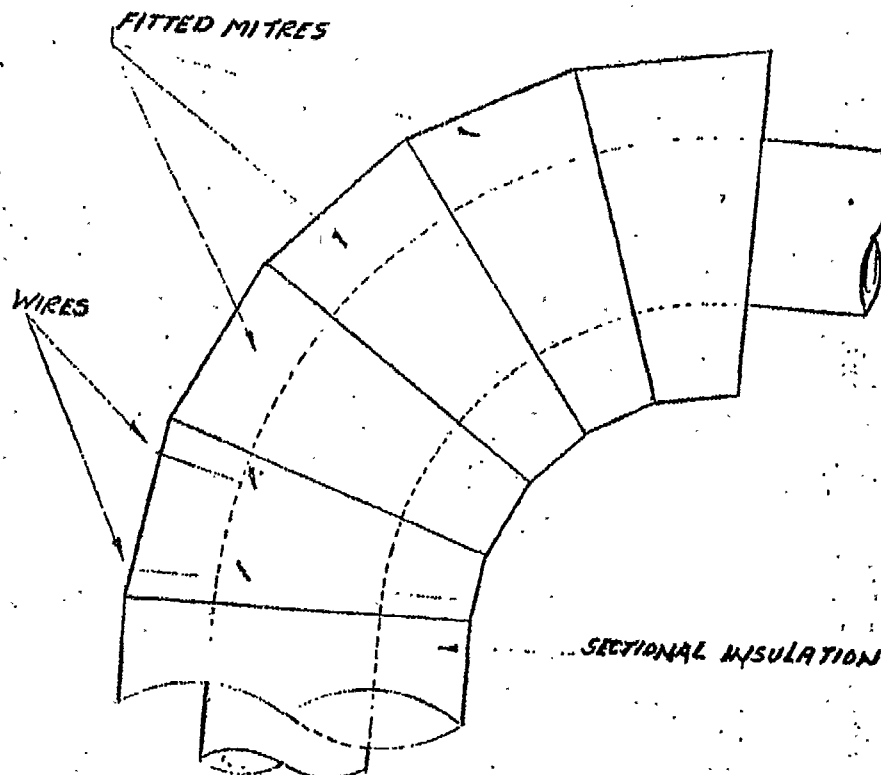

Fig. 1 Mitred Insulation on a Weld Ell
(1) Sectional or Segmental - Sectional or segmental insulation is applied to 90° ellis and bends by cutting mitres from pieces of the straight pipe covering. Mitres are wedge-shaped short pieces as shown in Fig. 1. Mitred pieces should start at the beginning of the curve on bent piping, at the flange on a flanged ell, or just covering the weld on a weld ell. The pieces are butted tightly against each other until the whole bend is insulated.